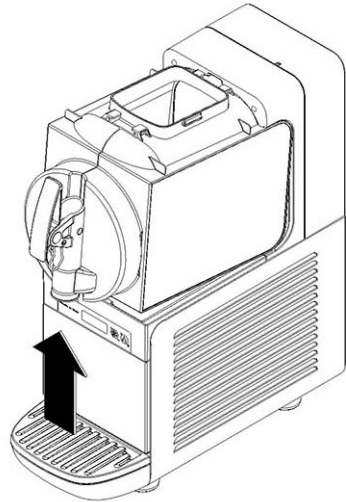

figure 3
- 2** Remove the container by gently pushing the bottom (tap side) upwards to release the lower couplings (see figure 3) and then taking it off the